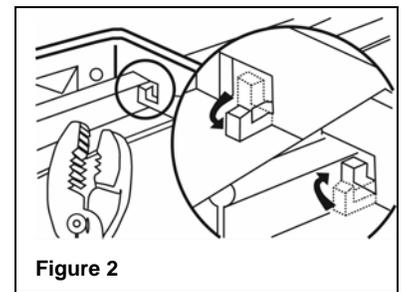

Figure 2
Suspended Ceiling Installation: Locate the four (4) T-bar slots near the end of the bar hanger. Bend tabs out, slip the hanger bar over the T-bar and press the tabs back against the T-bar to hold it in place (See Figure 2).